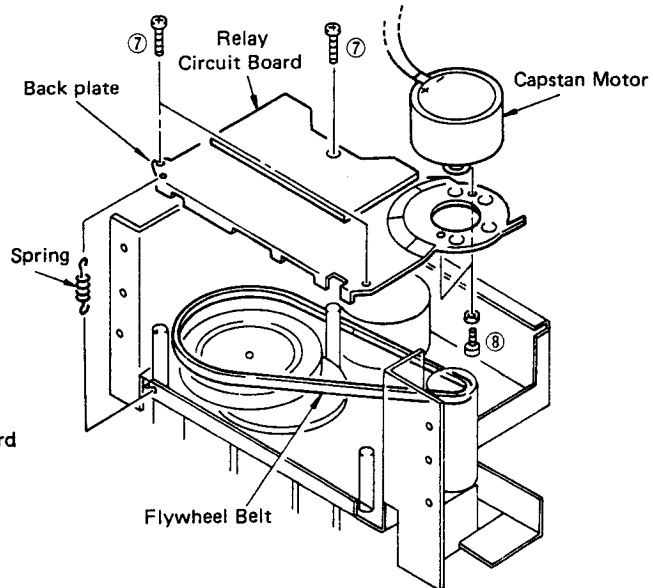

Fig. 3
- Remove 3 screws ( ⑦ ) in Fig. 3 and then remove the back plate.
- Remove 2 screws ( ⑧ ) in Fig. 3 and then remove the Capstan Motor.